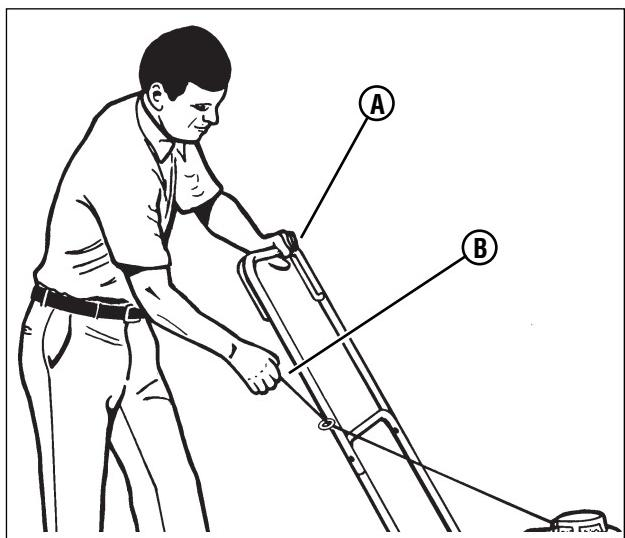

Figure 16: Starting the engine
6. Stand behind the mower. Use one hand to hold the engine stop lever in the operating position (**A**, Figure 16). Use the other hand to hold the recoil-start grip (**B**).